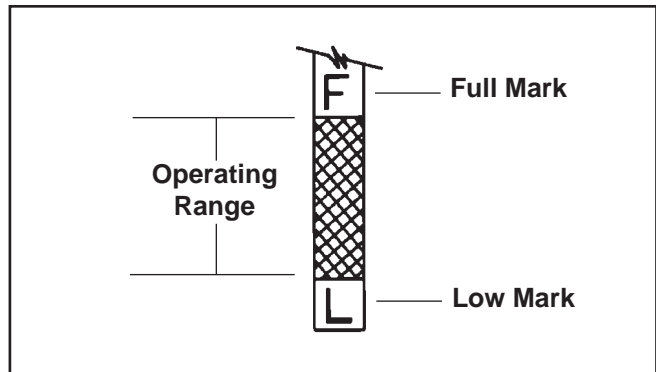

Figure 14. Oil Level Dipstick.
4. Remove dipstick again and check oil level. Oil should be up to, but not over **F** or **FULL** mark on dipstick. See Figure 14.
4. Fill the crankcase with new oil of the proper type to the **FULL** mark on the dipstick. See Figure 14. Recheck oil level before adding more oil. Do not screw dipstick in when checking oil level.